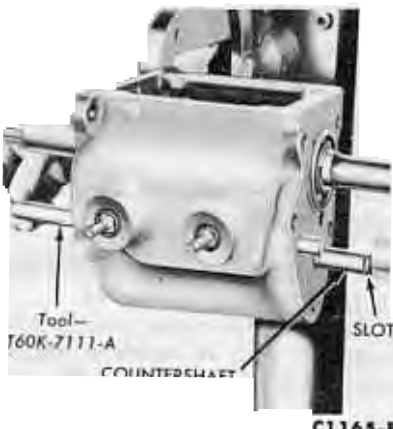

FIG. 5—Removing or Installing Countershaft
6. Hold the countershaft gear with a hook and using the tool (dummy shaft) shown in Fig. 5, drive the countershaft rearward out of the countershaft gear and the transmission case. Then, carefully lower the